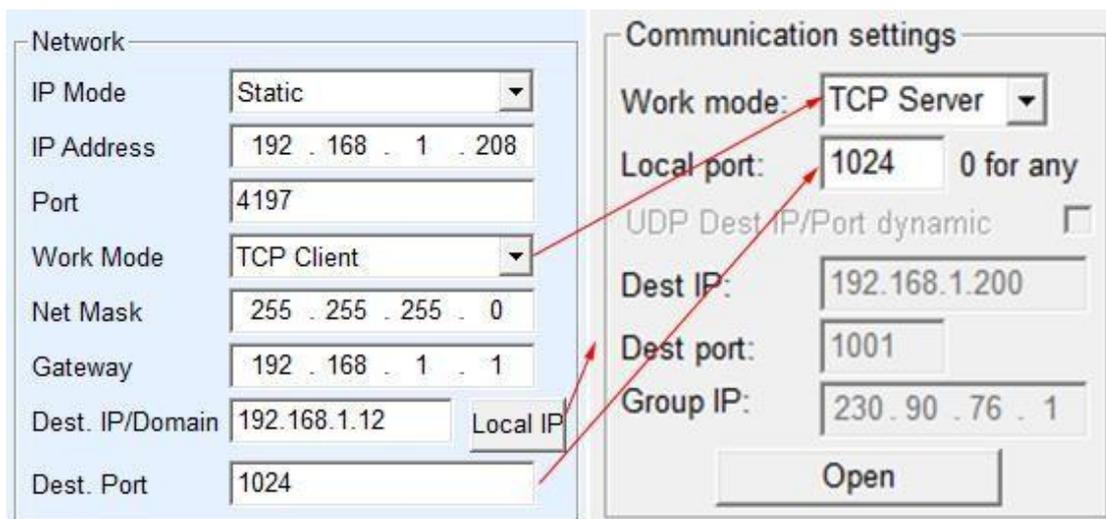

Figure 16 The serial port server as the Client
When the serial port server is the Client, there must be three corresponding relationships, as shown in figure 16. 1) working mode correspondence: the working mode of the serial port server is the Server mode corresponding to the Client mode of the network tool; 2) IP address correspondence: the destination IP of the serial port server must be the IP address of the computer on which the network tool is located; (3) port correspondence: the destination port of the serial port server must be the local port of the network tool. In this way, the serial port server can automatically connect to the network tools, send and receive data after the connection is established.